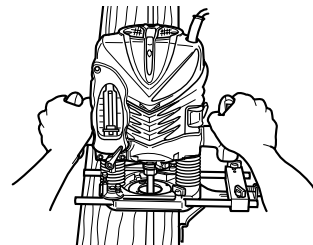

Fig. 15
- ① Insert the guide bar into the hole in the bar holder, then lightly tighten the 2 wing bolts (B) on top of the bar holder.
- ② Insert the guide bar into the hole in the base, then firmly tighten the wing bolts (A) (standard accessories).
- ③ Make minute adjustments of the dimensions between the bit and the guide surface with the feed screw, then firmly tighten the 2 wing bolts (B) on top of the bar holder and the wing bolt (C) that secures the straight guide.
- ④ As shown in Fig. 15, securely attach the bottom of the base to processed surface of the materials. Feed the router while keeping the guide plane on the surface of the materials.